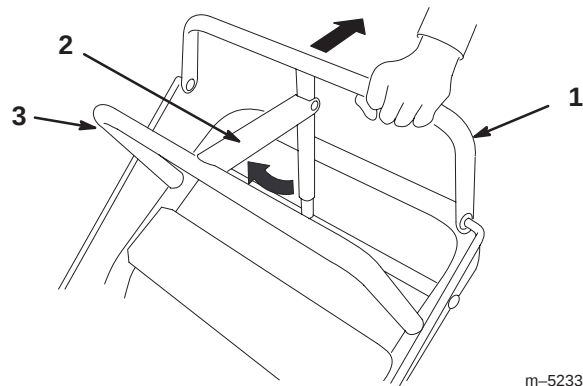

Figure 14
1. Pull the upper control bar (Fig. 14) rearward and hold it in this position.
2. Lift the parking brake lock (Fig. 14) up and gradually release the upper control bar. The brake lock should stay in the set (locked) position.
1. Pull rearward on the upper control bar (Fig. 14). Lower the parking brake lever to the released position.